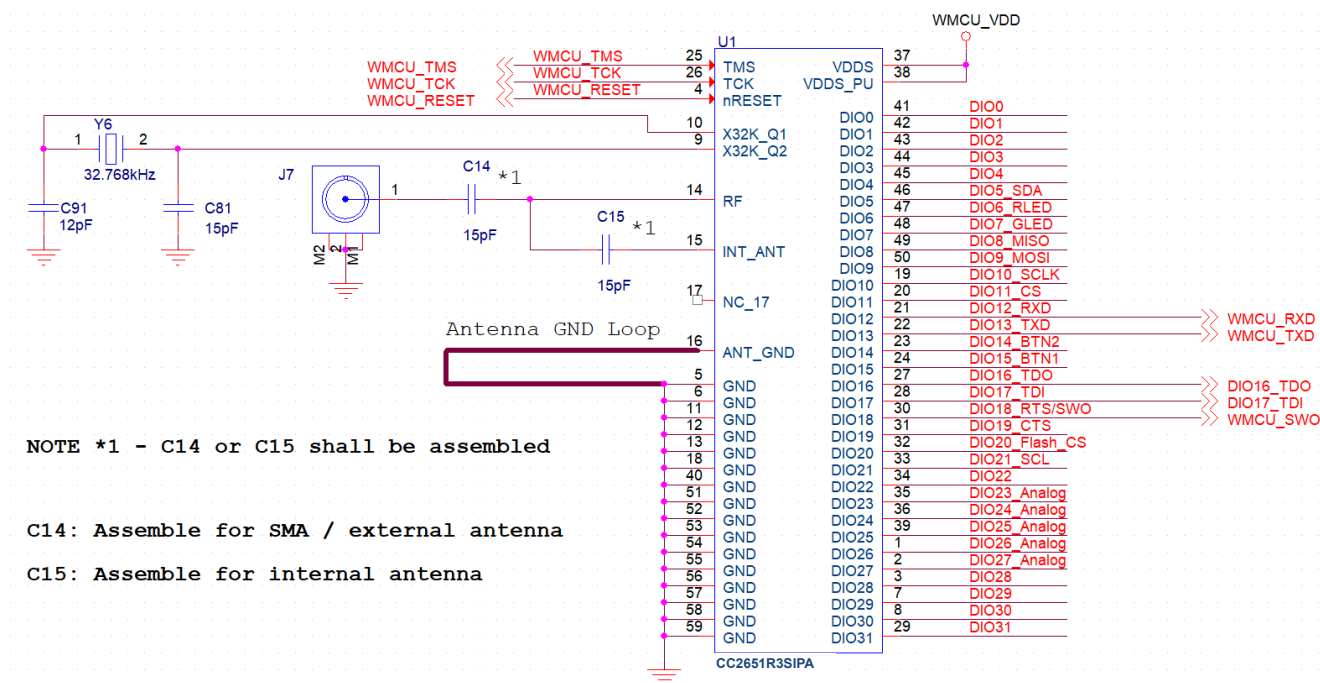
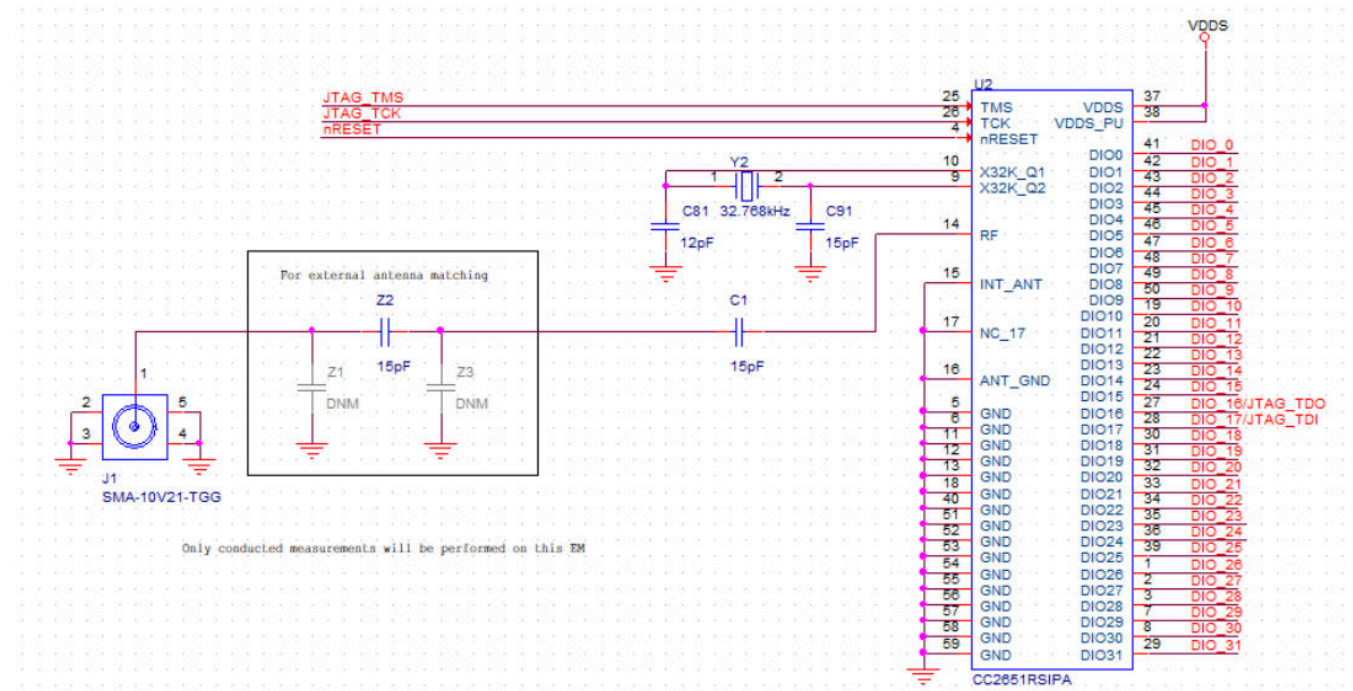

図 10-1. CC2651R3SIPA Typical Application Schematic
FIG 10-2. CC2651R3SIPA Typical Application Schematic for External Antenna Connection
図 10-1 shows the typical application schematic using the CC2651R3SIPA module. Note that C15 should be assembled when using the integrated antenna option within the module and when the layout design guidelines in セクション 10.4.2 are strictly followed. If the layout guidelines described in セクション 10.4.2 cannot be followed, it is recommended to implement the alternate application circuit schematic in セクション 10.2 and follow the alternate layout guidelines in セクション 10.4.4.
If using the external antenna option, C14 should be assembled. In addition, Pin 15 of the module should be connected to GND as shown in 図 10-2. For the full reference schematic, download the LP-CC2651R3SIPA Design Files.
- π or L matching and tuning may be required between RF out path, pin 14, and the external connection as shown in 図 10-2.
表 10-1 provides the bill of materials for a typical application using the CC2651R3SIPA module with the internal antenna as shown in 図 10-1, while 表 10-2 provides the bill of materials for a typical application using the CC2651R3SIPA module with an external antenna as shown in 図 10-2
In order to meet the module power-on-reset requirements, VDDS (Pin 37) and VDDS_PU (Pin 38) should be connected together. If the reset signal is not based upon a power-on-reset and is derived from an external MCU, then VDDS_PU (Pin 38) should be No Connect (NC). Please refer to 図 10-1 for the recommended circuit implementation.